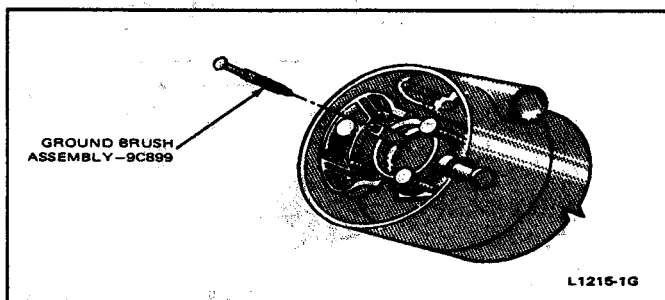

FIG. 6 Ground Brush Installation
The speed control ground brush assembly provides an electrical ground path between the steering wheel hub and the turn signal switch when inserted into the turn signal cancelling cam (Fig. 6).
Disconnect the 6-way connector (C-1006 on E-150—E-350 and C-717 on F-150—F-350 and Bronco) at the amplifier from the steering column control switches (Figs. 6 and 7). Then, check the lead (light blue-black hash -151) from the control switches as follows:
1. Check for battery voltage at the lead (light blue-black hash) when the ON switch is depressed. Battery voltage should be available at the lead (light blue-black hash) coming from the control switches. (Refer to the wiring diagram, Figs. 6 through 9).
2. Connect an ohmmeter between the light blue-black hash wire (151) and ground. Check the wire for continuity to ground (0-1 ohm) when the OFF switch is depressed. If a resistance higher than 1 ohm is found, the wiring, slip rings, the copper brushes in the turn signal switch, or the switch is at fault, or the steering column is not properly grounded. To check for proper ground, connect an ohmmeter between any good electrical ground point on the body sheet metal and the steering column upper flange. Scrape away paint in a non-visible spot if necessary for good contact. The resistance should be less than 1/2 ohm. Rotate the steering wheel back and forth and check flexible coupling for resistance of less than 1 ohm. If resistance higher than 3 ohms is noted, clean the horn brush contacts and the ground brush (verify that the ground brush is installed). A resistance of less than 1 ohm must be obtained before performing the remaining tests.
3. With an ohmmeter connected between the light blue-black hash wire (151) and ground, depress and hold the SET/ACCEL switch. A reading of approximately 680 ohms should be indicated on the ohmmeter.
4. With an ohmmeter connected between the light blue-black hash wire (151) and ground, depress and hold the COAST switch. A reading of approximately 120 ohms should be indicated on the ohmmeter.
5. With an ohmmeter connected between the light blue-black hash wire (151) and ground, depress and
Disconnect the 6-way connector (C-1006 on E-150—E-350 and C-717 on F-150—F-350, Bronco) at the amplifier assembly, (Figs. 6 and 7), and connect an ohmmeter between the wire connector terminals (Dark Green-614 and Black -57 on E-150—E-350 and Dark Green—White Stripe-150 and blank -57A on F-150 through F-350 and Bronco) at the speed sensor end. A reading of approximately 40 ohms should be obtained. A reading of Zero ohms indicates a shorted coil or wiring harness and a maximum reading indicates an open coil or wiring harness. Replace the sensor in either case.